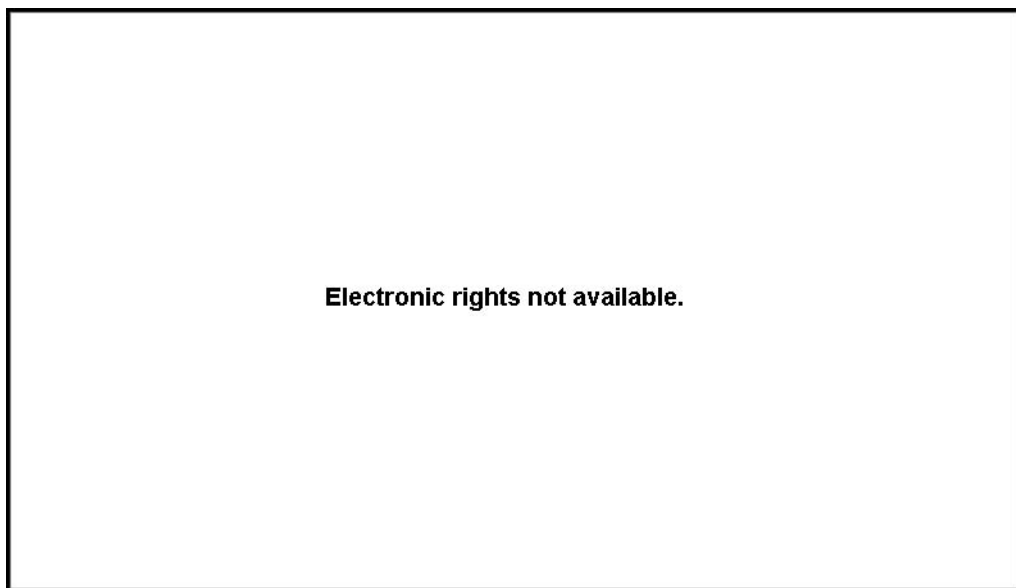

Figure 16–7 Throttle position sensor. *Courtesy of Nissan Motors*
The PCM learns about accelerator pedal movement and position from the throttle position (TP) sensor (Figure 16–7). Like many other linear measurement sensors, the TP sensor receives a reference voltage from the PCM, routes it through a variable resistor, and returns a corresponding voltage to the PCM. Throttle position signals range from about 0.5 V to about 4.6 V from closed throttle to wide-open throttle.
The closed-throttle position switch (Figure 16–7) tells the PCM when the driver has removed his or her foot from the accelerator pedal. The PCM